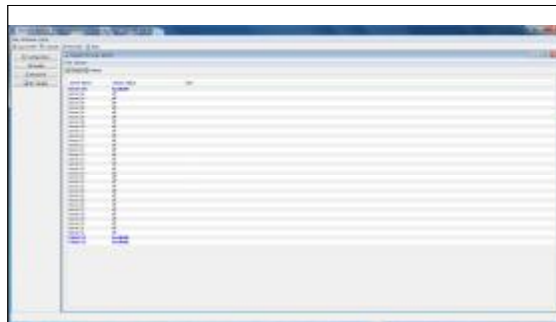

Figure 9 Targets page
4. Press **Enter**. The web interface opens at the Targets page. See Figure 9.